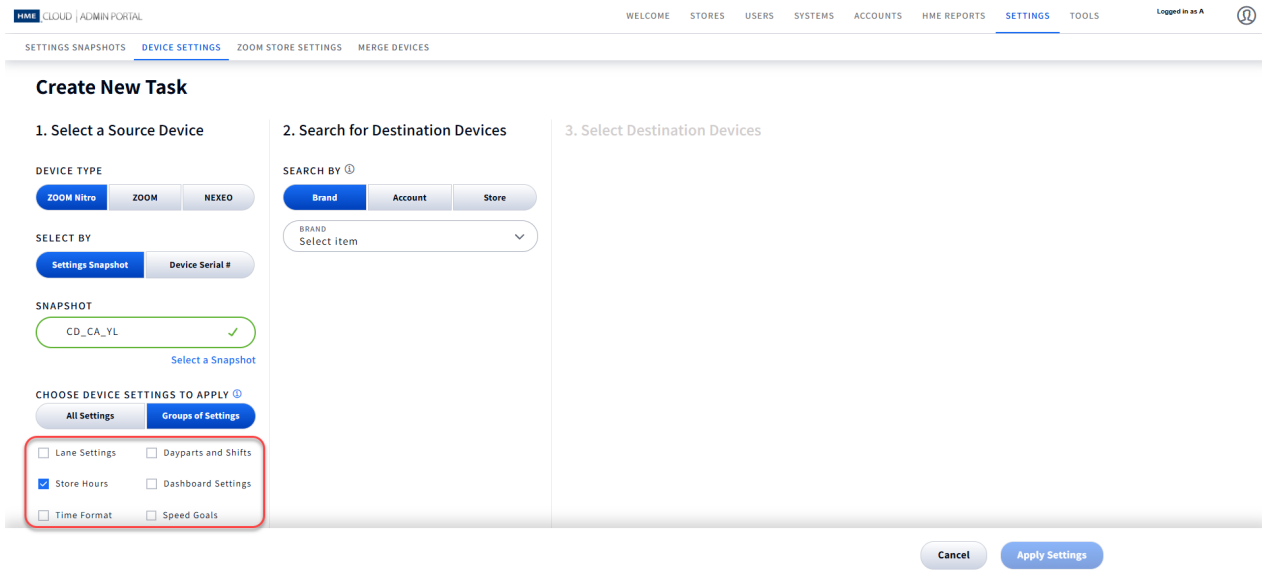

Fig. 13.11
9. All the listed settings in Fig. 13.11 are configured through the ZOOM Nitro dashboard. Here is a brief description of each of the settings.